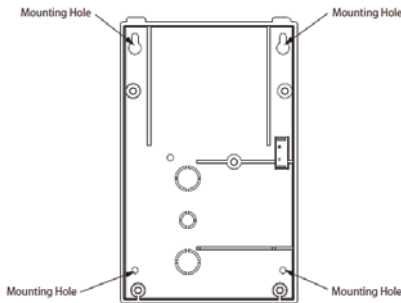

Figure 4A
2. Using the "enclosure base" as template mark the four mounting holes on the wall (See Figure 4A).
Figure 4A and 4B - Mounting Hole Locations